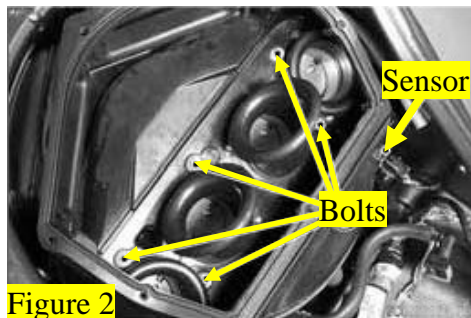

Figure 2
3. Remove air box cover, air filter, and velocity stacks from inside air box. *Be very careful to not drop anything into the throttle bodies, debris can destroy your engine. Cover throttle bodies with clean rags.* Disconnect sensor from the rear of air box. See figure 2.